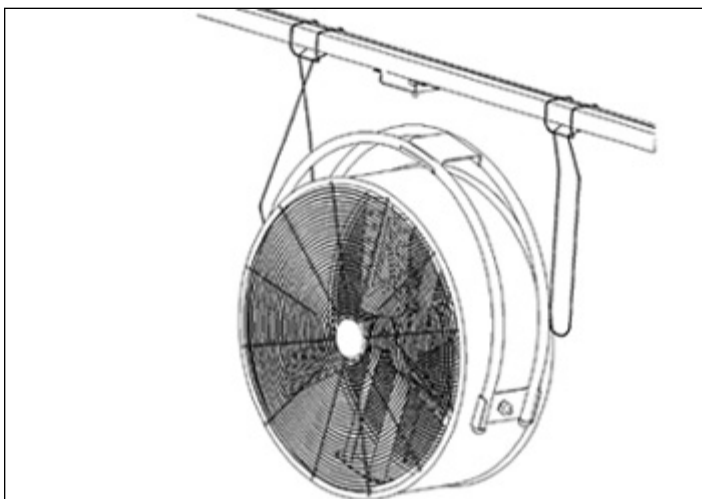

figure 2
2. Pull other end of safety cables down to sides of fan (figure 2).